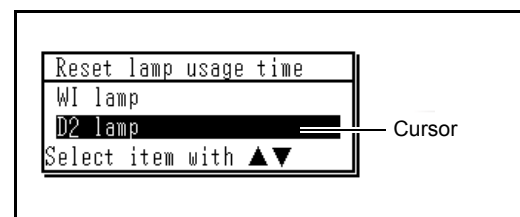

Fig. 3.5
- 3 The window for selecting the lamp whose usage is to be reset appears. Use the **▲** **▼** keys to move the cursor to [D2 lamp] (Fig. 3.5), and press the **ENTER** key.